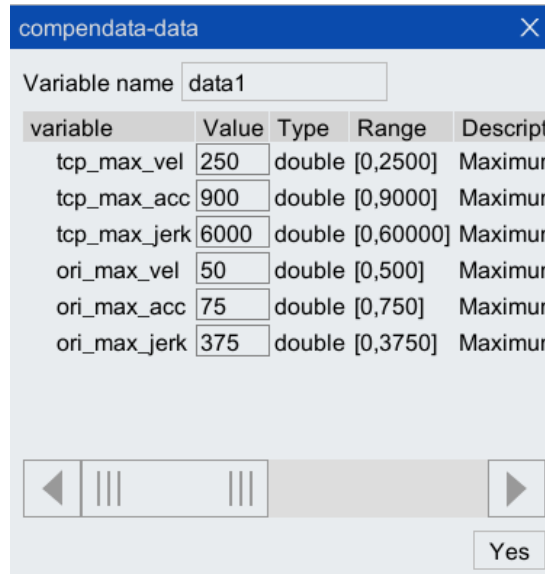

Figure 5-33 [Data] parameter configuration interface
Step3.Click the <...> button on the right side of date to pop up the parameter configuration interface for [data], as shown in Figure 5-33. This parameter represents the maximum speed, acceleration, jerk, and angular velocity, angular acceleration and angular jerk of the robot for tool compensation. After setting according to actual needs, click the <Yes> button.